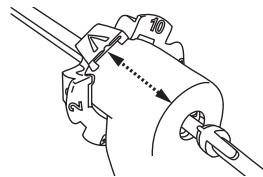

Figure 2 – Applicator alignment in Probe
3. Insert the applicator into the biopsy device. Advance the applicator to align the yellow indicator key (C) with the white arrow on the thumbwheel of the biopsy probe. Refer to Figure 2.
4. Fully seat the applicator in the biopsy probe. Verify proper alignment of the applicator aperture with the biopsy chamber by ensuring proper alignment of the yellow indicator key (C) with the white arrow on the thumbwheel of the biopsy probe (Figure 2).
5. Immediately deploy all pellets by advancing the plunger (A).